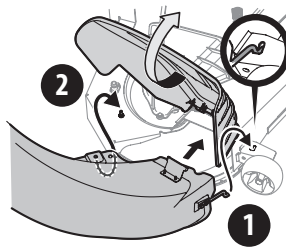

Figure 33
- Insert the end of the discharge chute elbow (1) into the hole provided in the deck wheel mount as shown in the inset of Figure 33.
- Pivot the discharge chute rearward until the hole in the discharge chute elbow aligns with the pin on the deck adapter. Move the discharge elbow down onto that pin as shown in (2) of Figure 33.